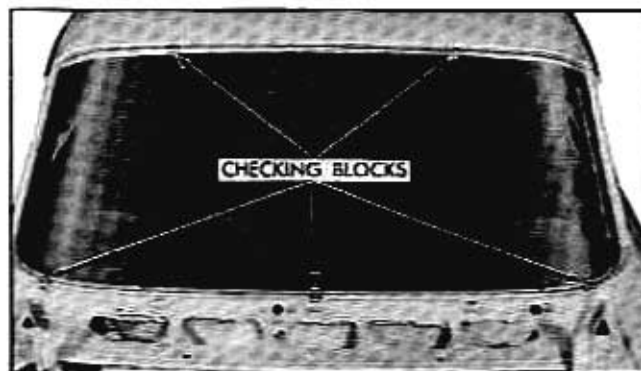

Fig. 1-7 Windshield Opening Check Blocks
4. Install five windshield checking blocks to pinchweld flange (Fig. 1-7). Position one block over lower pinchweld flange on each side of body twelve inches inboard from the lower corner of windshield opening. Position one block over upper pinchweld flange midway between center block and each outboard block on lower retaining flange.
NOTE: Windshield checking blocks J-8942 may be used as shown in Fig. 1-7.